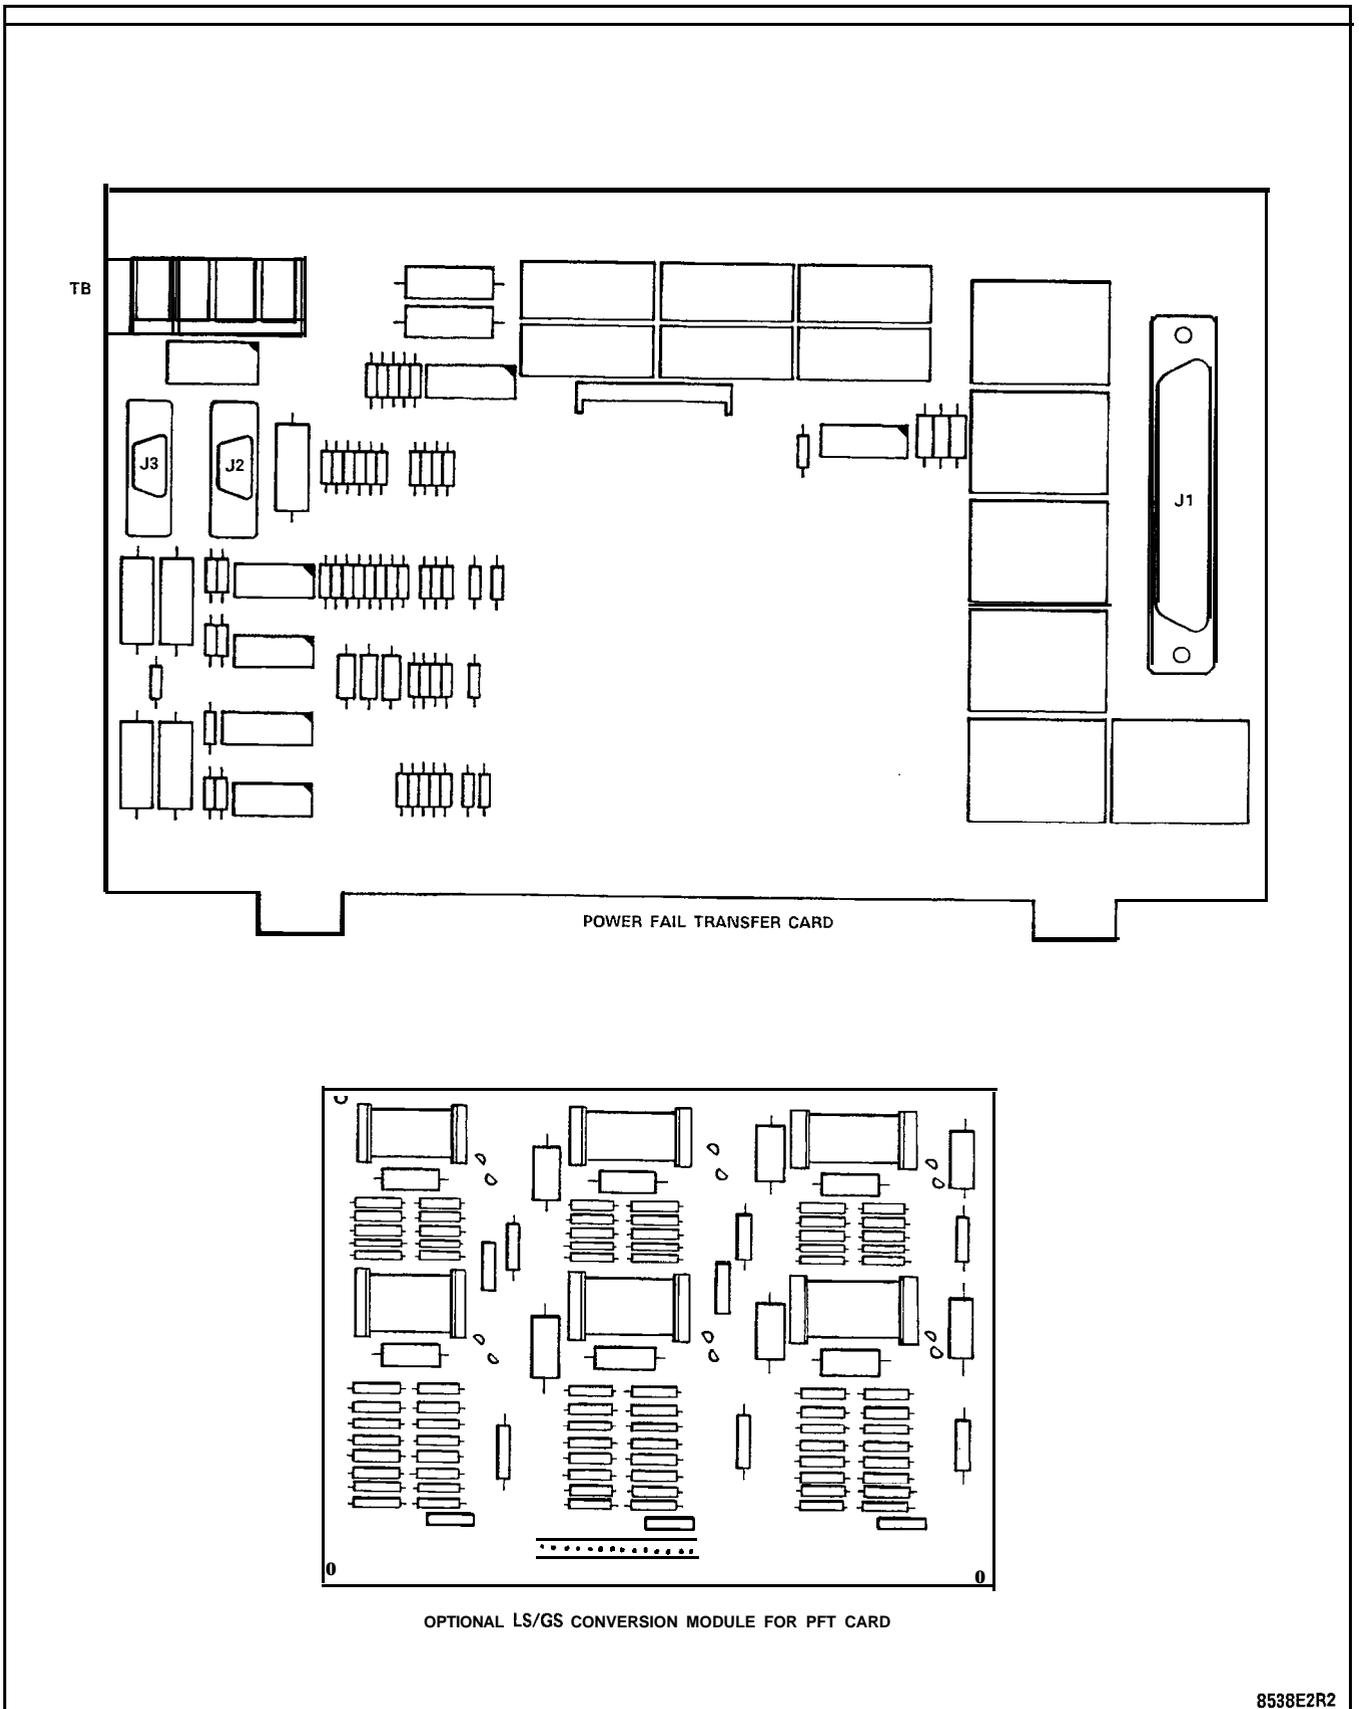

Figure 21-1 Power Fail Transfer Card
21.02 Power Fail Transfer cards mount on the right wall of the cabinet, as seen from the rear door. Each card contains six circuits. There can be up to three cards per system, allowing a maximum of 18 PFT circuits. The card is 165 mm high x 267 mm long (6.5 in. x 10.5 in.). See Figure 21-1.